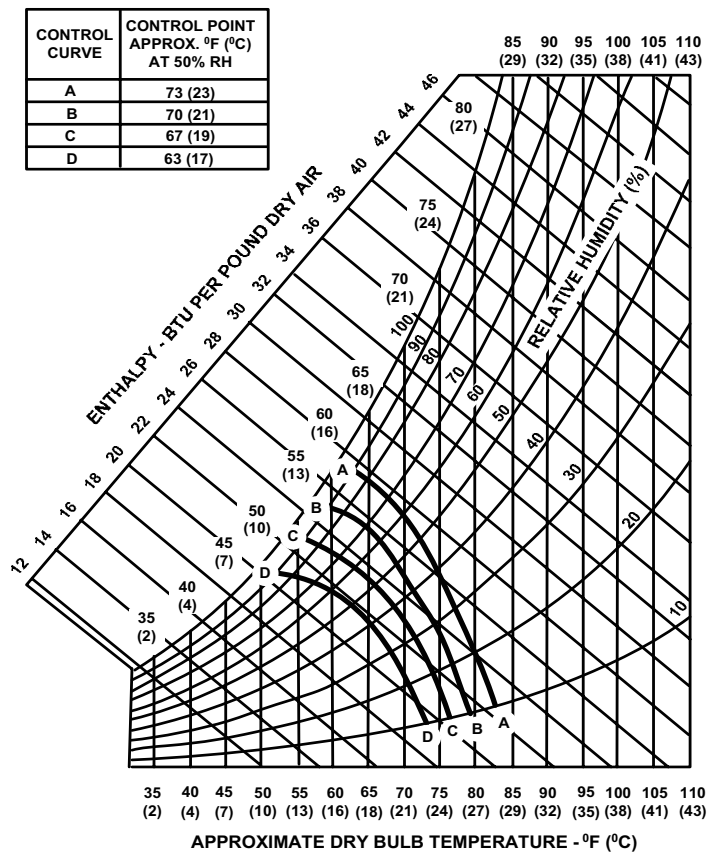

FIGURE 7 - ENTHALPY SETPOINT ADJUSTMENT
The enthalpy set point may now be set by selecting the desired setpoint shown in the Enthalpy Setpoint Adjustment Figure 7. Adjust as follows:
- For a single enthalpy operation carefully turn the set point adjusting screw (found on the damper control module) to the “A”, “B”, “C” or “D” setting corresponding to the lettered curve of the Enthalpy Setpoint Adjustment Figure 7.